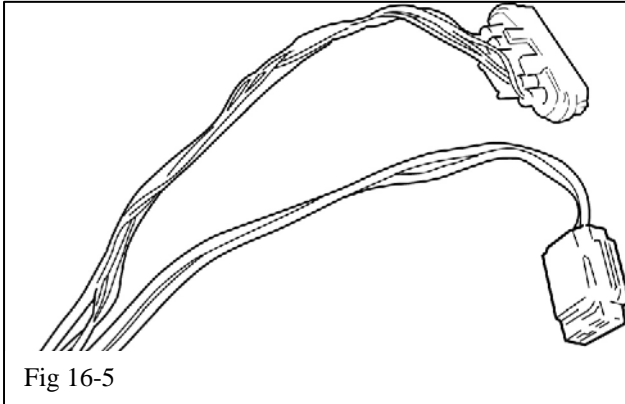

Fig 16-5
- (e) Open the wire harness and remove the wire loom wrap up to the junction where the wire loom that contains the throttle and air injection wires branch out from the main harness to expose the throttle motor wires and air injection wires. Separate the throttle motor wires from the air injection wires (Fig 16-5).